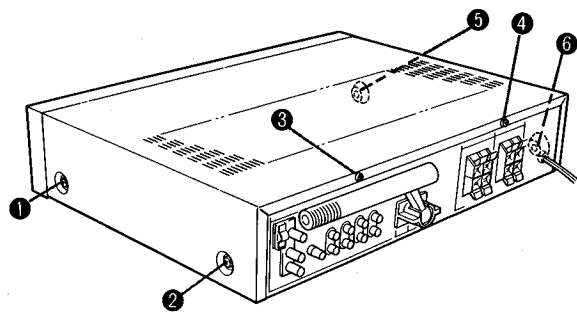

Fig. 1
Remove the screws ① to ⑥ in Fig. 1 and then remove the cabinet top.